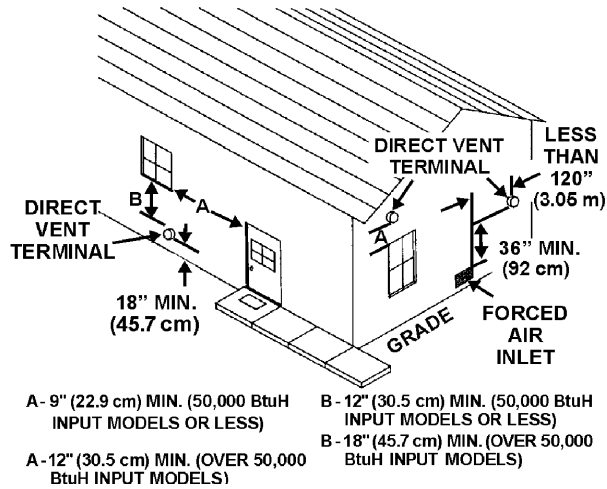

FIGURE 5.
- The direct vent terminal shall terminate at least 3 feet above any forced air inlet located within 10 feet. See Figure 5.